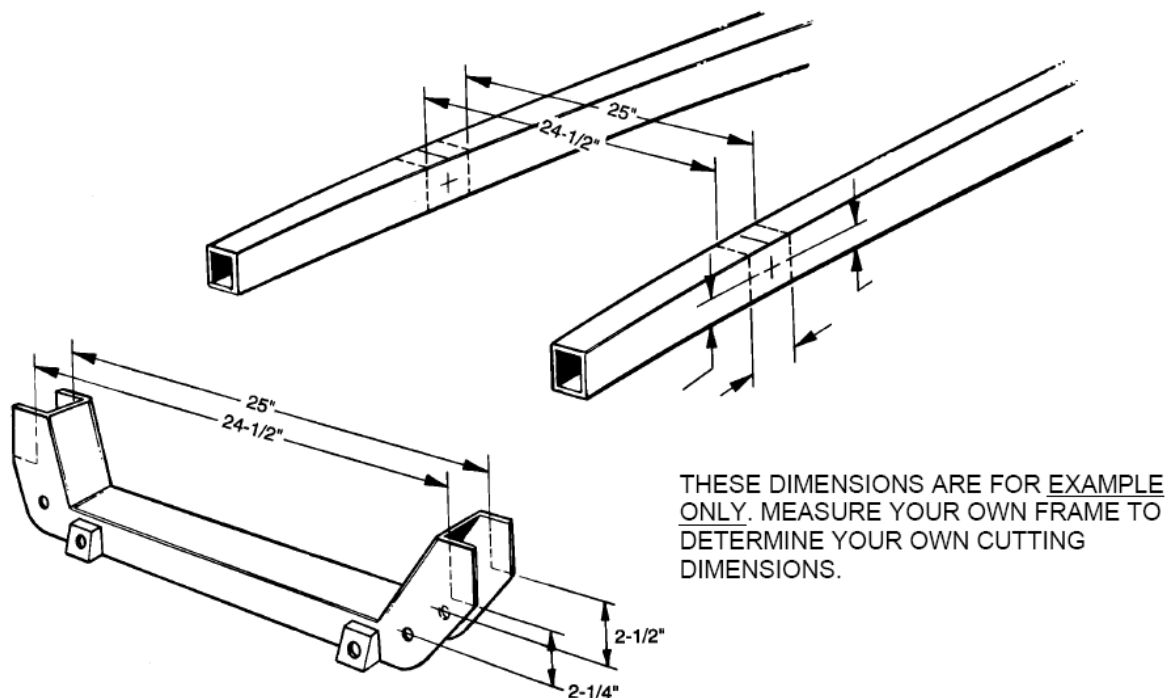

Figure 3- Measure Crossmember for Trimming
5. Now it is time to measure the crossmember for trimming. The inner width of your boxed frame rails will be the vertical cuts on the crossmember. The horizontal cuts are determined as follows: The lower control arm pivot bolts are 3-1/2" below the spindle centerline on the standard Mustang geometry. Measure down (or up) from your spindle centerline mark to the bottom of your frame rail. Subtract (or add) your dimension from 3-1/2" and the difference will be the dimension from the control arm inner bolts to the horizontal cuts on the crossmember. You will need to do this twice, 1-3/4" forward and rearward of the spindle centerline, as this is where the crossmember will actually contact the frame (See **Figure 3**). Also keep in mind that your frame is tapered and sitting on an angle, so the front and back cuts are almost never the same. Also remember that the crossmember should be level, both side to side and front to back.